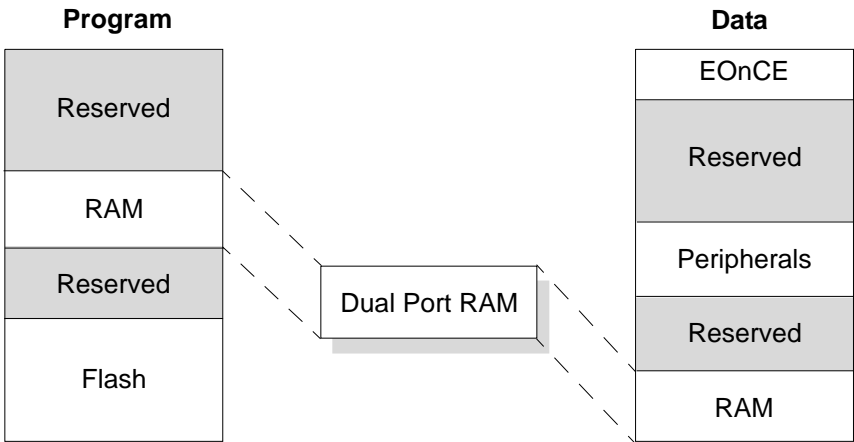

Figure 4-1 Dual Port RAM
2. This RAM is shared with Program space starting at P: \$00 8000; see Figure 4-1.